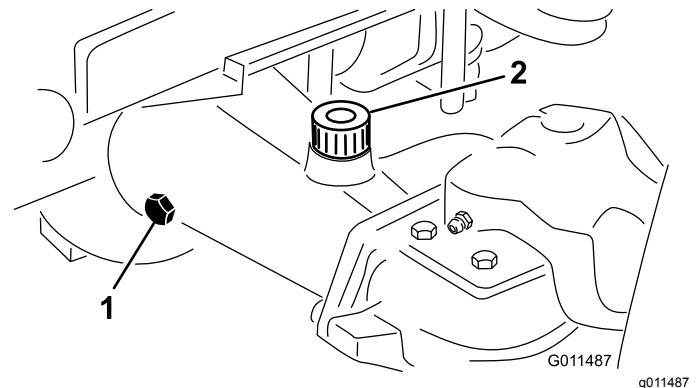

Figure 18
2. Remove a check plug from 1 end of the axle and ensure that the lubricant is up to the bottom of the hole (Figure 18).